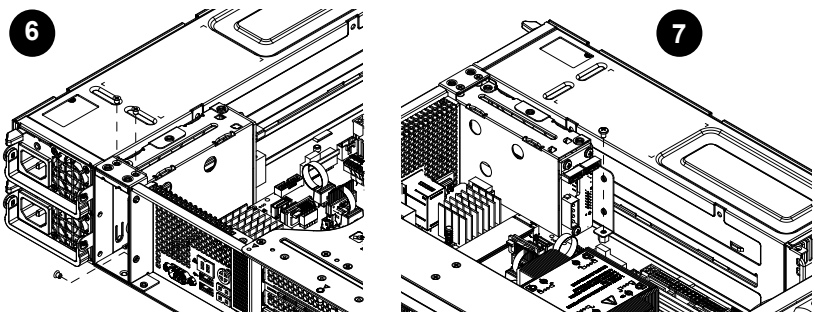

Figure 4-9. Securing the Rear Hard Drive Cage to the Chassis
2. Release the clamp that secures all four full-height PCI shields (Figure 4-9). Looking at the rear of the chassis, this clamp is in the right corner. Unscrew the single screw that secures the clamp and rotate the clamp away from the shields. Remove the blank PCI shield covering the expansion slot in the chassis.
4. Insert the riser card(s) into the serverboard expansion slot(s) while aligning the riser card bracket with the rear of the chassis. Secure the bracket with screws (Figure 4-9).